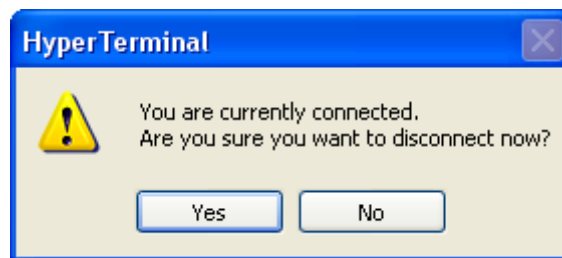
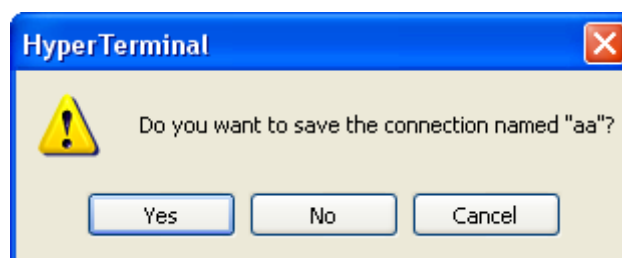

Fig. 3.5 Disconnect
Fig. 3.6 Save Hyper Terminal session
**Step 5:** To close the window, the Fig. 3.5 will appear. Select “Yes” and Fig. 3.6 will appear: